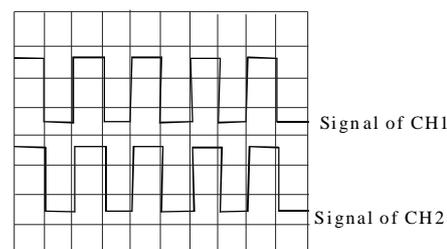

Figure 4-4
Now, apply the calibrator signal to the vertical input terminal of CH2 with the probe as is the case for CH1. Set the AC-GND-DC switch to the AC state. Adjust vertical POSITION knobs (11) and (19) so that both channel signals are displayed as shown in Figure 4-4